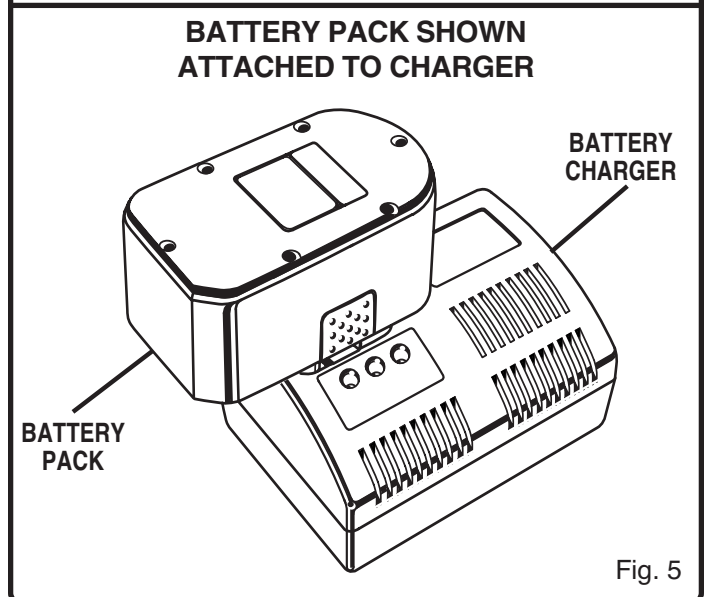

Fig. 5
- Place battery pack in charger. See Figure 5. Align raised rib on battery pack with groove in charger.